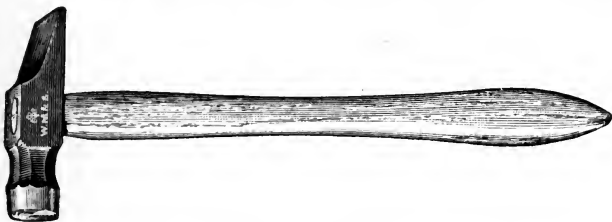

Fig. 34.—Hammer.
*Hammer.*—The usual and most useful form of this for cabinet-makers is that shown in Fig. 34.